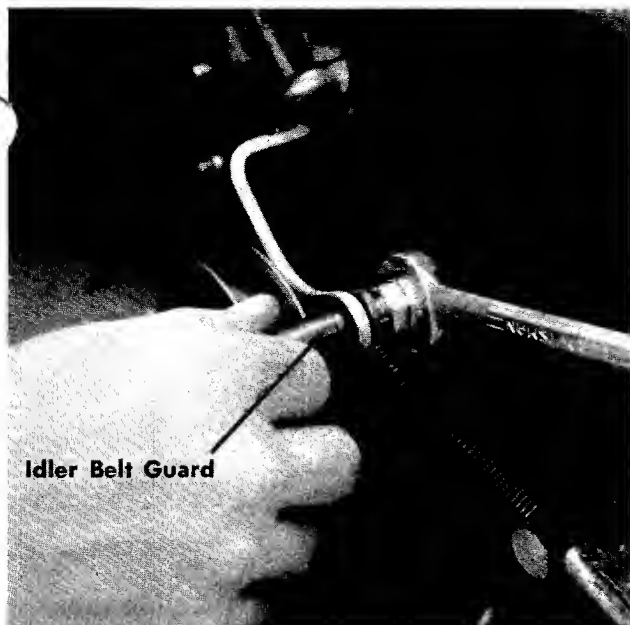

FIGURE 13. IDLER BELT GUARD
- k. Remove the idler belt guard. See figure 13.